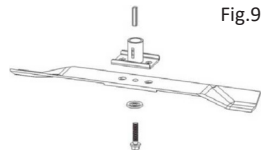

Fig.9
- If you want to replace the cutting blade, remove the bolt (Fig. 9).